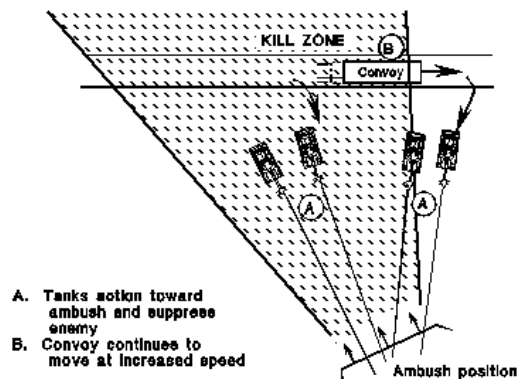

Figure 5-8A. Convoy escort actions toward ambush.
In almost all situations, the platoon will take several specific, instantaneous actions when it must react to an ambush. These steps, illustrated in Figures 5-8A and 5-8B, include the following:
- o As soon as they acquire an enemy force, the escort vehicles action toward the enemy (Figure 5-8A). They seek covered positions between the convoy and the enemy and suppress the enemy with the highest possible volume of fire permitted by the ROE. Contact reports are submitted to higher headquarters as quickly as possible.
- o The convoy commander retains control of the convoy vehicles and continues to move them along the route at the highest possible speed (Figure 5-8A).